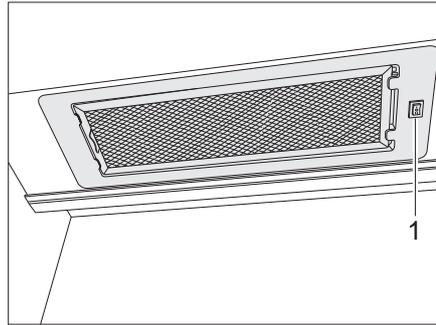

Fig. 142 Extractor hood
- Use the switch (Fig. 142,1) to turn the extractor hood on and off.